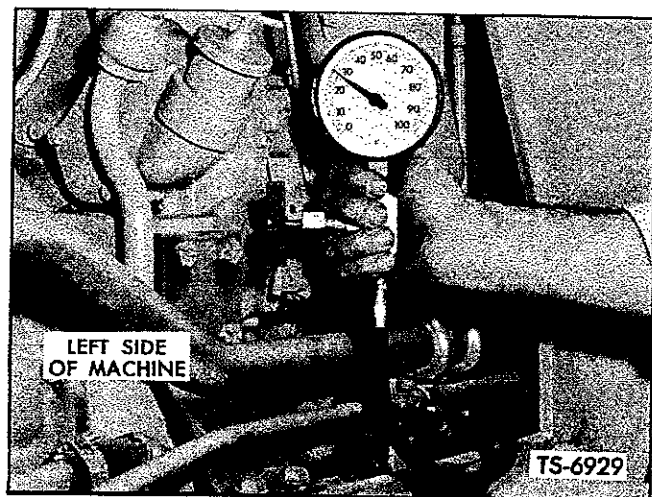

Fig. 32. Check Pressure — Oil Cooler IN
1. Install tachometer on engine. Install gauges at pressure ports on inlet and outlet piping to oil cooler as shown in Figures 32 and 33.